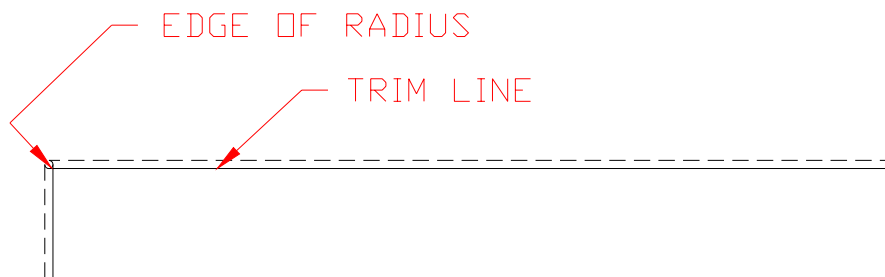

Figure 3.5.2
- 13) Trim the Elevator Trim Skin as in Figure 3.5.2.